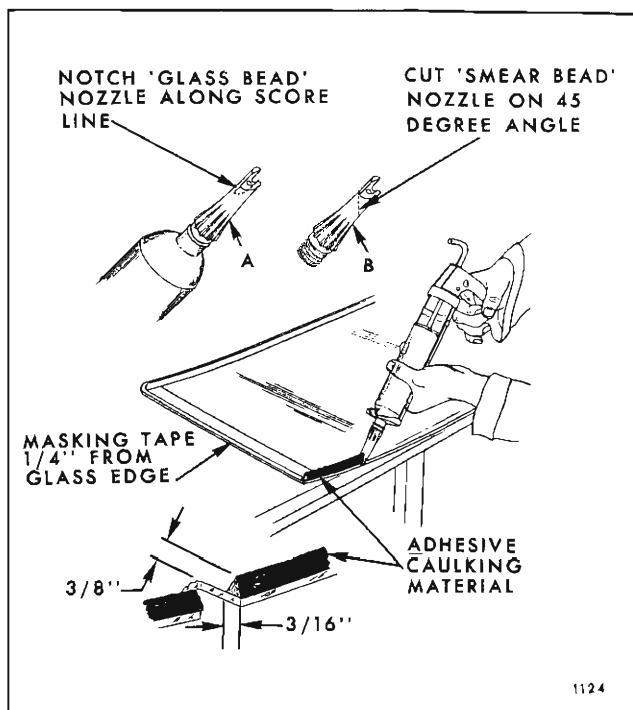

Fig. 2E41—Adhesive Caulking Material Application—Extended Method
16. With caulking gun and nozzle positioned as illustrated in Figure 2E41 carefully apply a smooth continuous bead of caulking material $\frac{3}{8}$ " high by $\frac{3}{16}$ " wide at base completely around inside edge of glass.